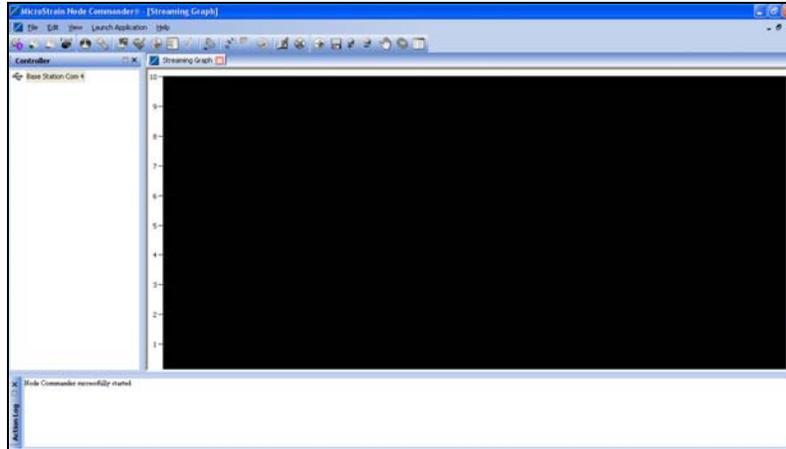

Figure 2
- The **Streaming Graph** screen will appear. See Figure 2.